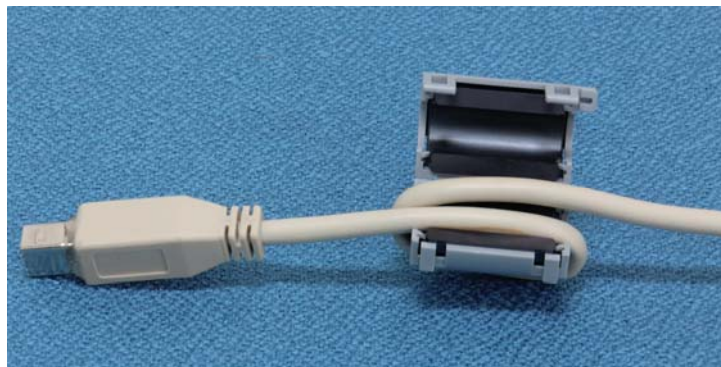

Figure 2 Procedure of fixing ferrite core
2. As shown in the Figure 2, turn the cable twice about 3cm away from the connector.